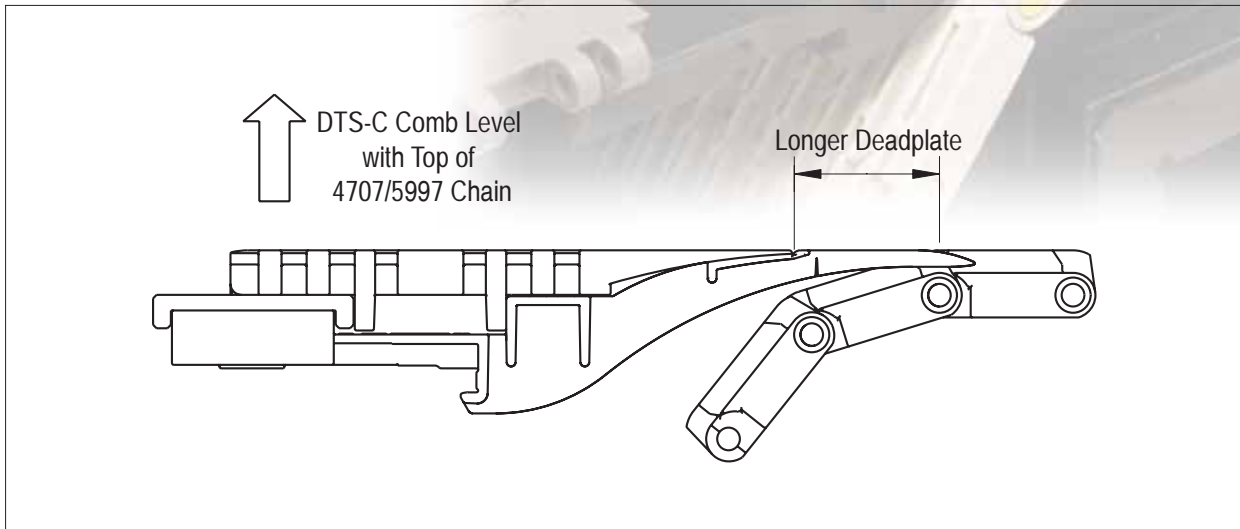

Figure 4. A higher position of the DTS®-C transfer comb increases the dead plate length, but will also provide a smooth product flow.
- The DTS®-C combs should be positioned so that the teeth ride on the chain between the ribs. In other words, the bottom of the teeth should contact the bottom of the valley between the ribs of the 4707 or 5997 chain. Refer to Figures 4 and 5